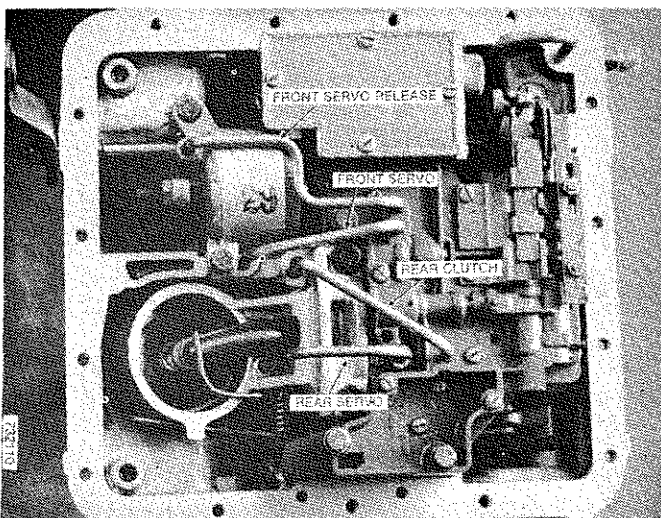

Fig. 21—Oil tubes positioned in valve body
- (1) Remove transmission oil pan drain plug, and allow fluid to drain.
- (2) Remove transmission oil pan retaining screws, then remove pan.
- (3) Remove the 4 exposed oil tubes carefully from their bores (Fig. 21).